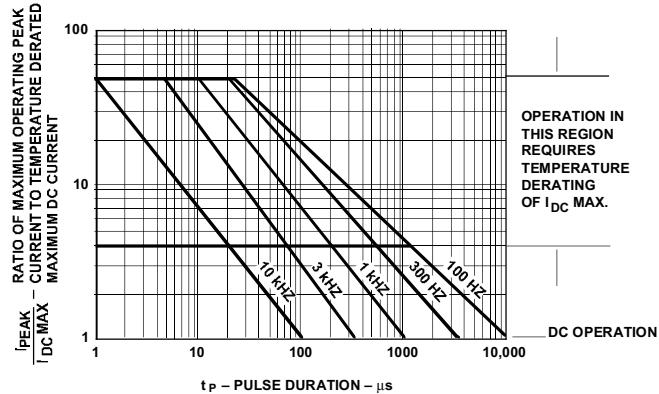

Figure 1. Maximum Allowable Peak Current vs. Pulse Duration – Red.
- 1. See Figure 1 to establish pulsed conditions.